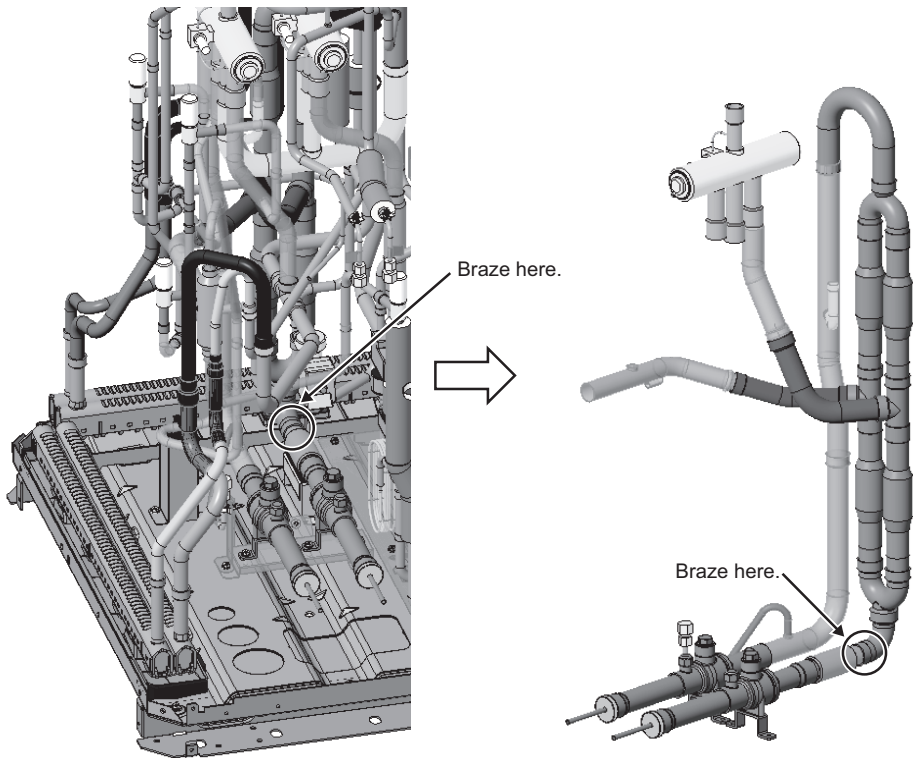

Fig. 9
(9) Braze the area shown in the figure below. After brazing, install the securing sheet metal removed in step (5) in reverse order. (One area to braze and two screws: Fig. 9)